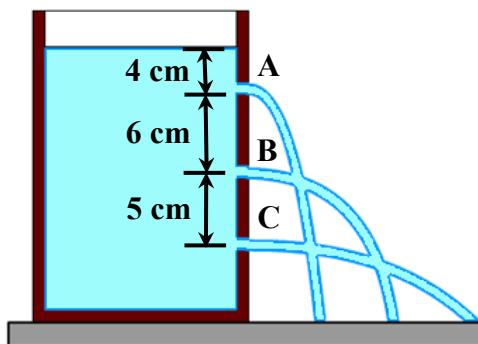

Figure 1(b) / Rajah 1(b)
- CLO1 C2 (b) Figure 1(b) below shows a beaker contains water with 3 holes at point A, B and C.